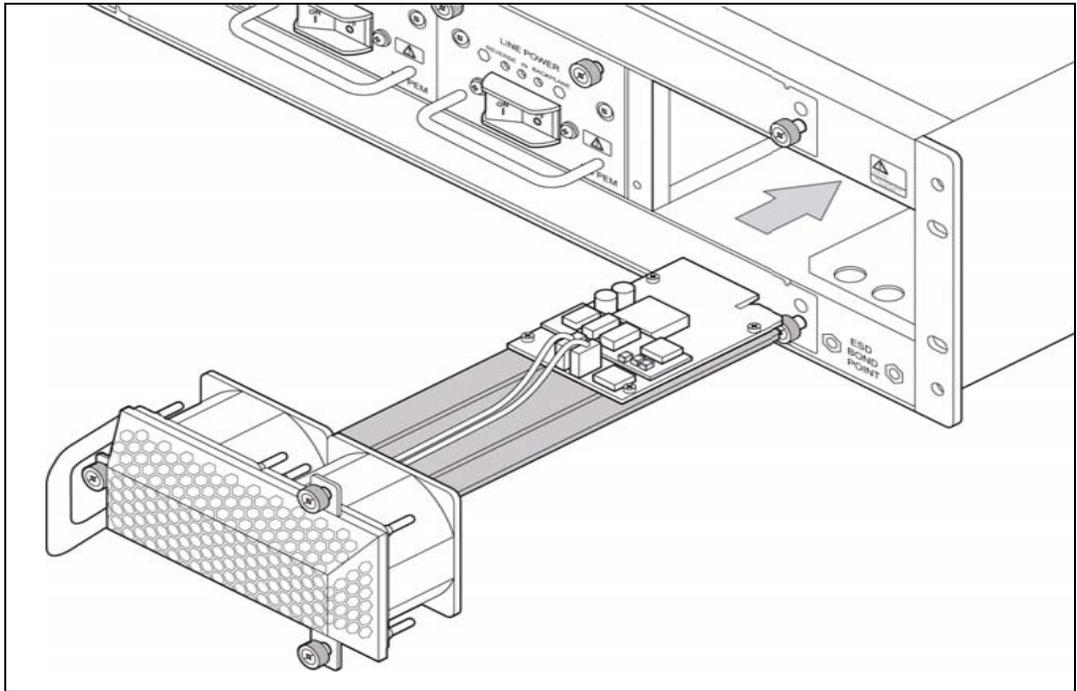

Figure 5.7 - Front Fan Tray (Front)
5. Take the replacement fan tray and insert it into the shelf (see Figure 5.7).